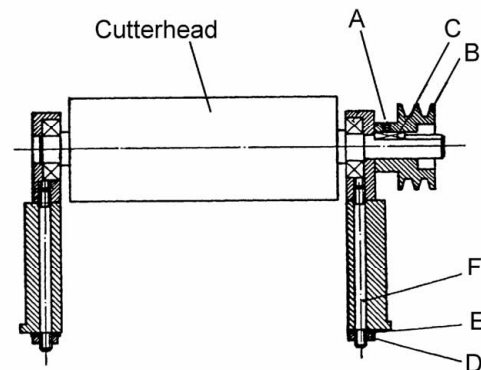

Figure 31
4. Loosen set screw (A, Figure 31) using a hex wrench and remove the cutterhead pulley (B, Figure 31) and key (C, Figure 31).
5. Remove nuts (D, Figure 31) and lock washers (E, Figure 31).
6. Lift assembly straight up. Studs (F, Figure 31) will still be attached to the bearing housings.